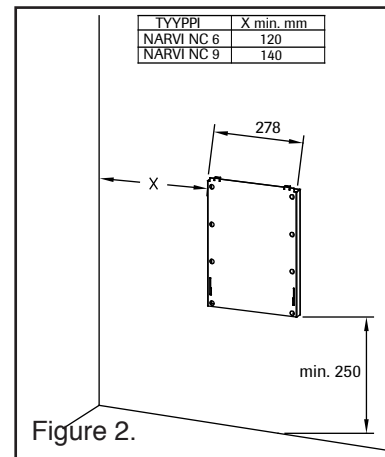

Figure 2.
- Fasten the attachment plate to the wall using the screws included in the delivery in accordance with Fig. 2.